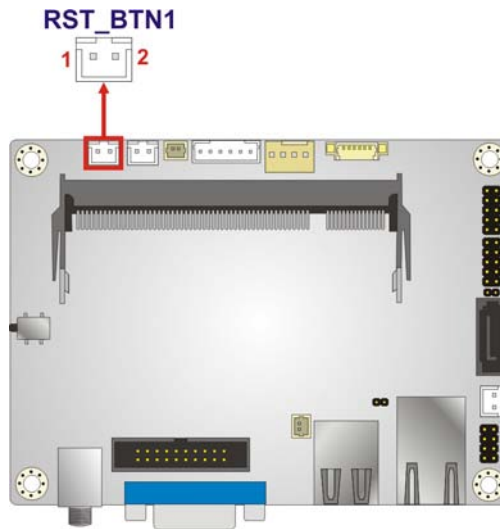

Figure 3-15: Reset Button Connector Location
- CN Location: See **Figure 3-15**